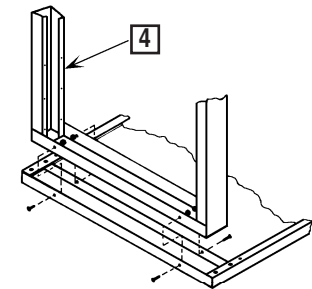

FIGURE 2
3. Stand leg weldment (Item 4) in place. (Leg fits inside attachment channel). Position leg so that holes in the sides of the leg weldment are in line with the holes in the sides of the attachment channel. Loosely fasten leg and channel together with (4) screws and nuts (Items 6 & 7) as provided. See Figure 2. Repeat procedure at the other end.